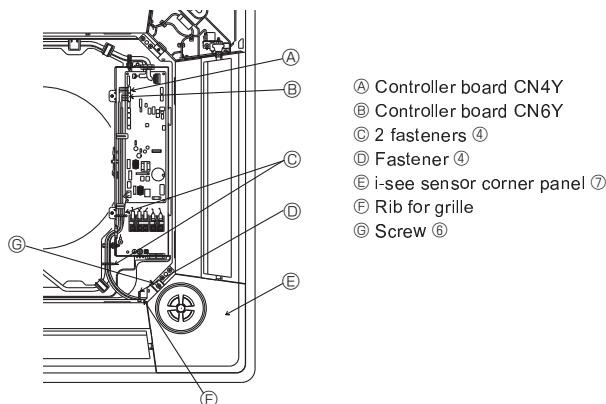

Fig. 6-10
① Water piping of the main unit
② Drain piping of the main unit
③ Initial position of the corner panel (logo attached)
④ Initial position of the levers on the intake grille
⑤ i-see sensor (PLP-6BAE panel)
6.6. Installation of i-see sensor corner panel (Fig. 6-10)